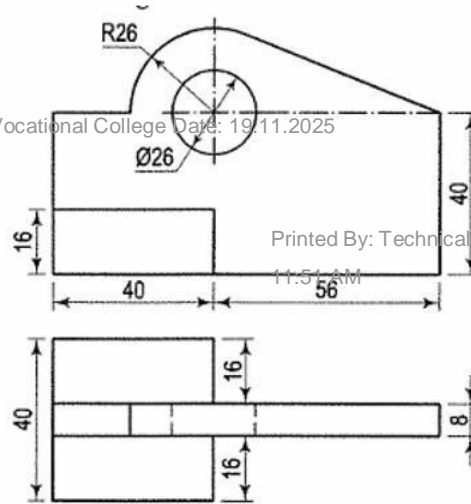

Figure 4
14. Figure 4 below represents an orthographic projection of a casting flange attached to suspension system of vehicle. Draw the oblique projection from the diagram given. (All dimensions are in mm)